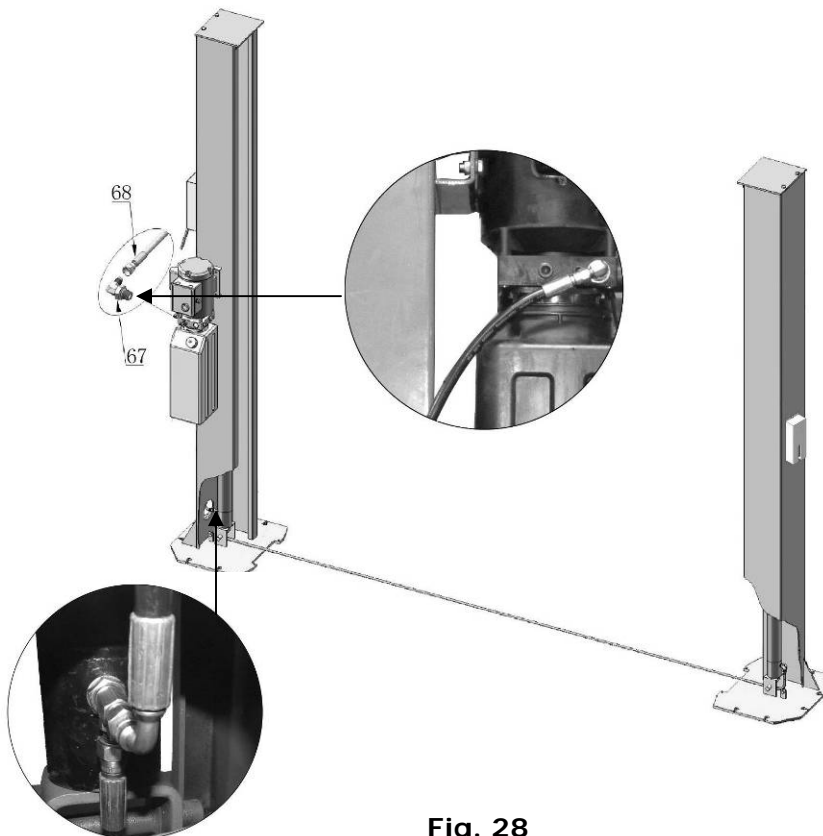

Fig. 28
K. Install Hydraulic Power Unit and Oil Hose Assembly (See Fig. 28).